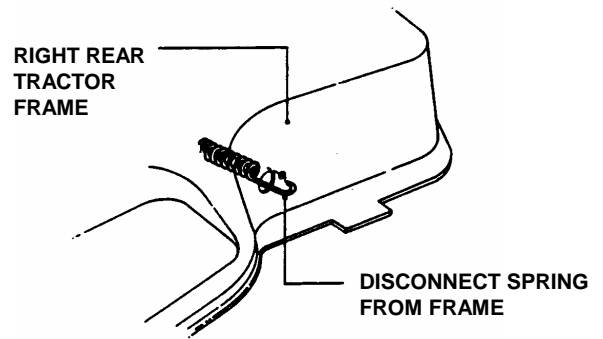

FIGURE 4.29
13. Disconnect traction belt idler pulley spring from tractor frame. See Figure 4.29.